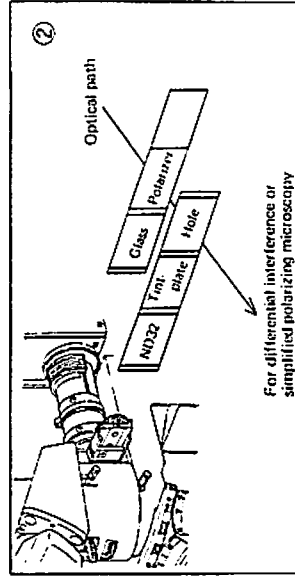

Fig. 9-2
(2) In the differential interference method, when changing the compensation range or in the case of changing over from the sensitive color polarizing to the simplified polarizing observation, push only the tint-plate slider leftward in, until it stops once with a click, thus the tint-plate being replaced by the empty hole. (Fig. 9-2)